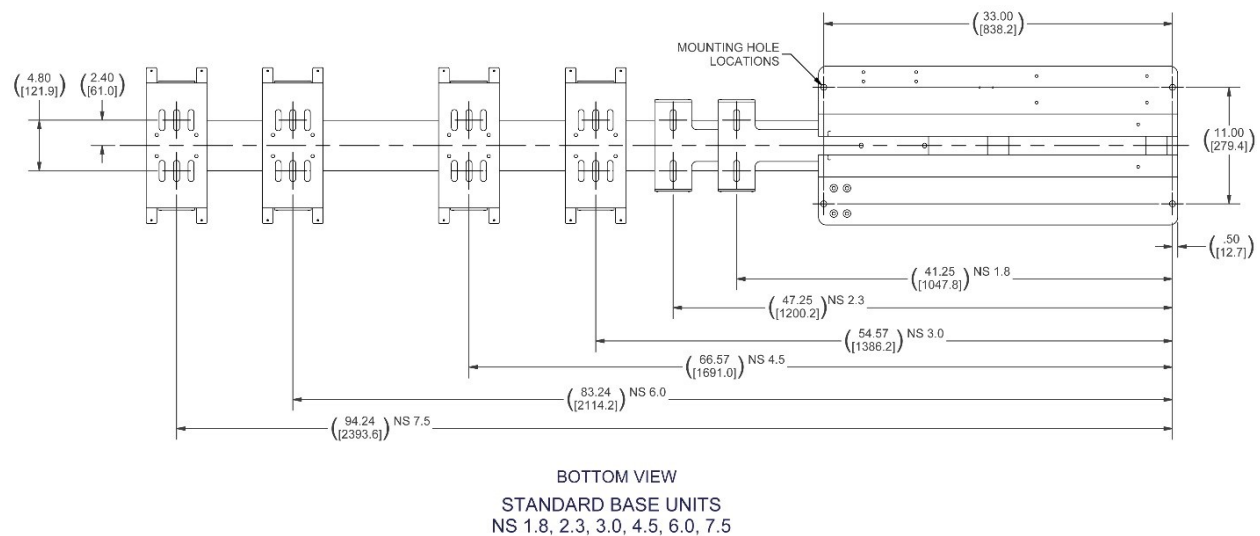

Figure 5-3 Installation Dimensions (Bottom View) Inches [mm]
1. Reference Figure 5-3 for standard mounting hole locations. These locations will vary based on which system you are using. Measure the hole locations to confirm or use the unit as a template to mark before drilling. Drill six $\text{Ø}9/16$ inch (or $\text{Ø}14$ mm) mounting holes into the vehicle mounting structure in the mounting locations. There are four holes for the base, and two holes for the saddle. Drill appropriate holes for cable installation and remove any sharp edges that might damage the cables.